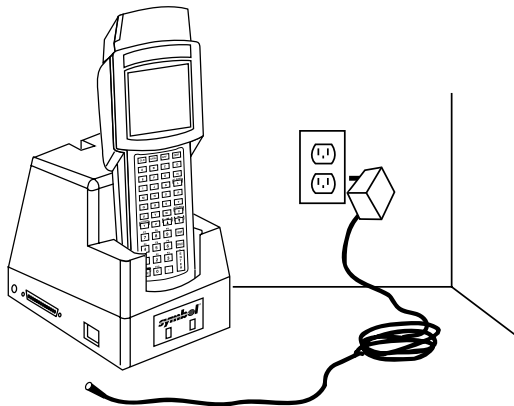

Figure 6-5. One-Slot Cradle Setup for Charging
2. Plug the wall cube in wall socket (refer to Figure 6-5).